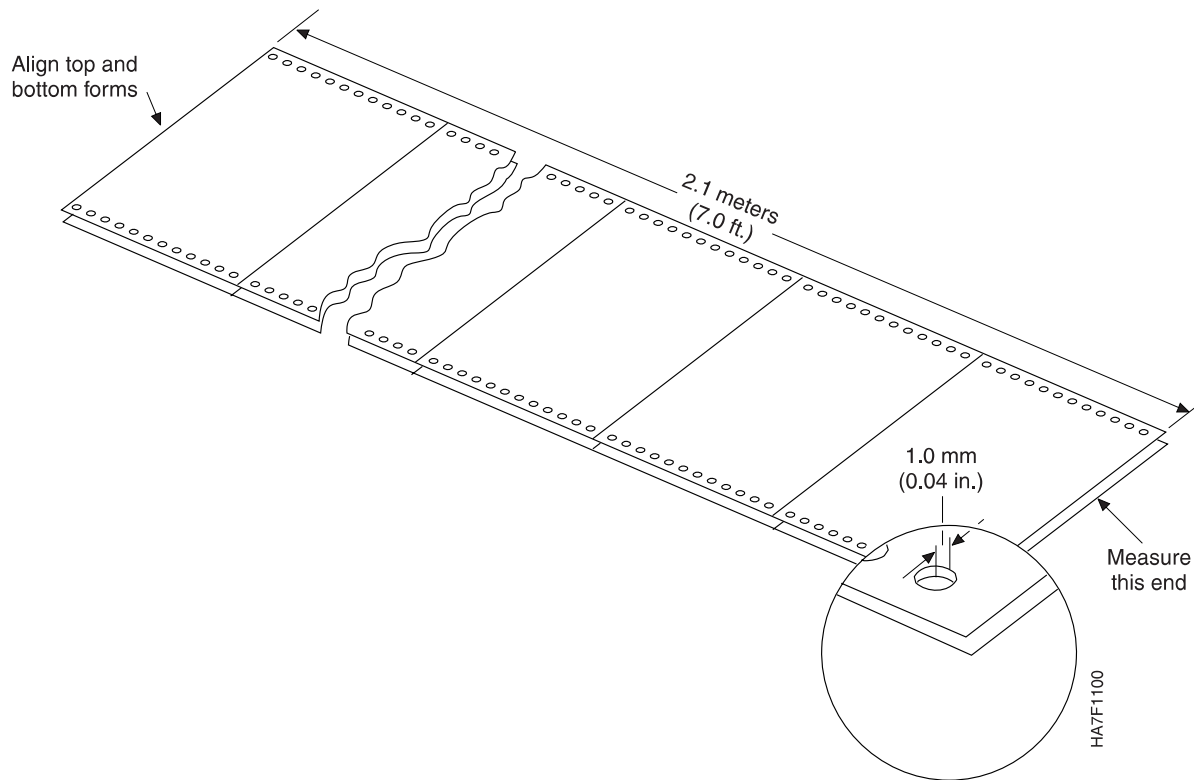

Figure 8. Edge Accuracy
3. At the other end of the forms, measure the distance from the tractor holes of the top sheet to those of the bottom sheet, as shown in Figure 8. The distances must not be greater than shown.